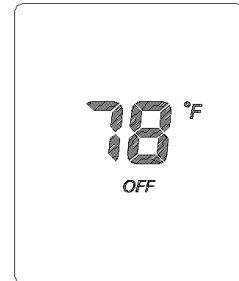

Figure 23
1. Press the ON/OFF button, the remote only display the room temperature and off mark.(See Figure 23)